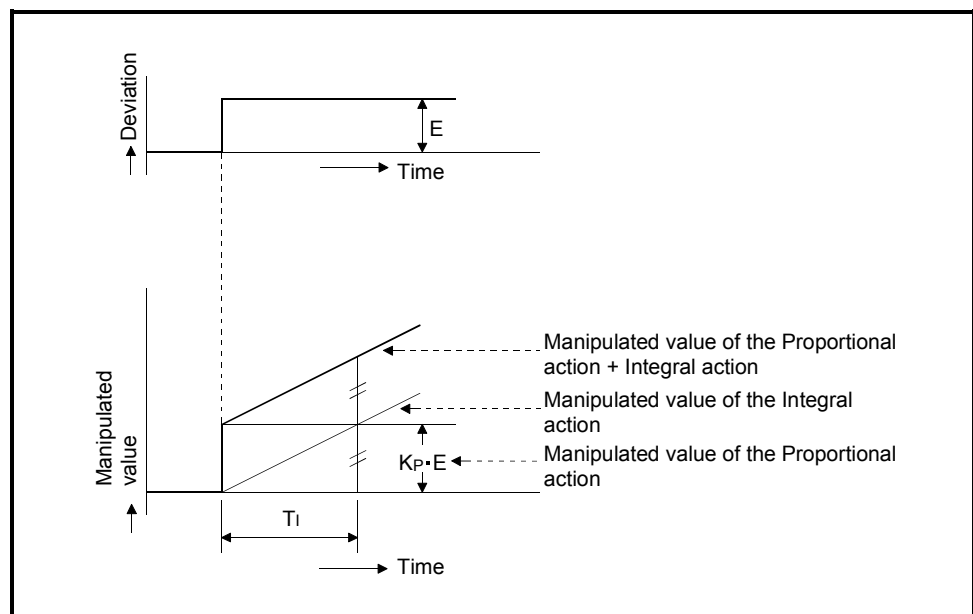

Fig. 1.9 Integral action for step response
- (2) In the integral action, the time from the deviation occurrence until the manipulation value of the integral action becomes that of the proportional control action is called the integral time, and is indicated by  $T_i$ .
- (3) The integral action for the step response when the error value is constant is shown in Figure 1.9.
- (4) The integral action is used as a PI action in combination with the proportional action, or PID action in combination with the proportional and derivative actions.